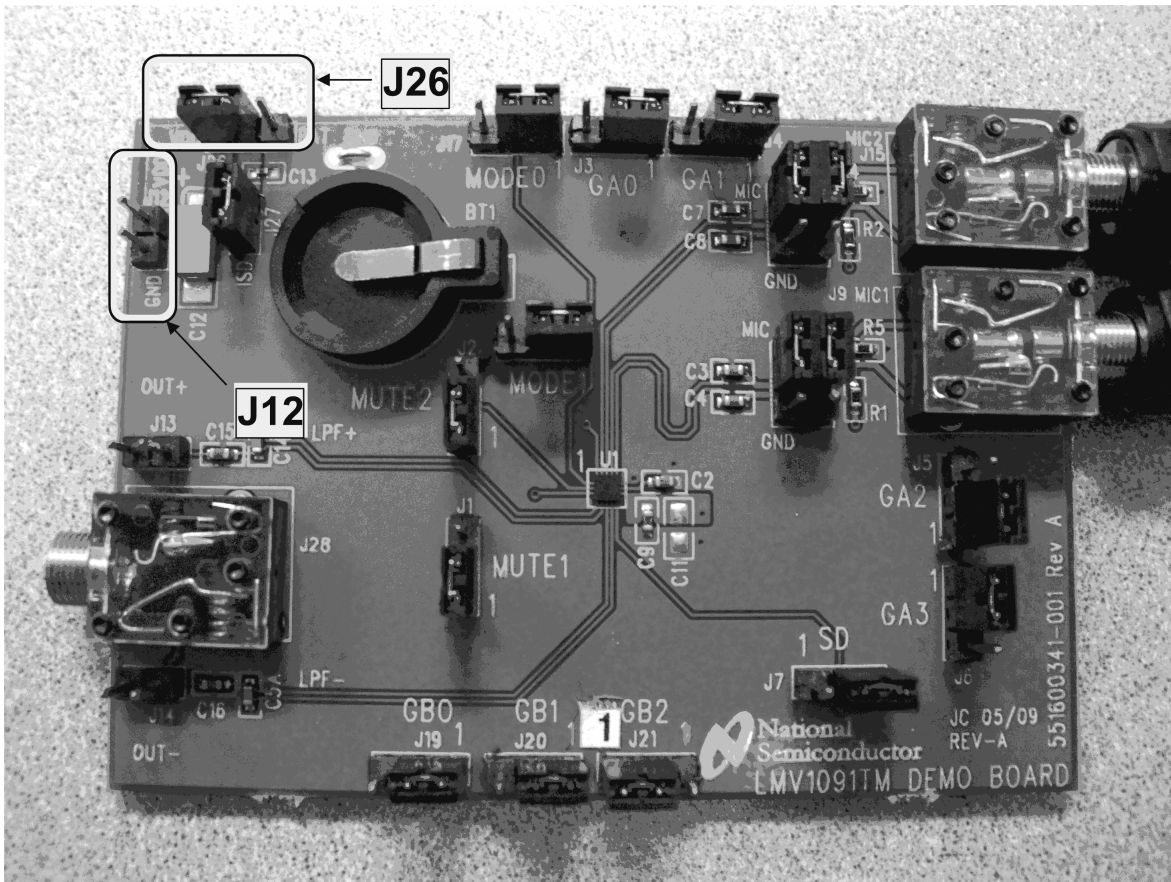

Figure 3. Power Supply Connectors and Headers
- Using the external supply via header J12 for V_{DD} and GND. Header J26 needs to be in the position shown in Figure 3.